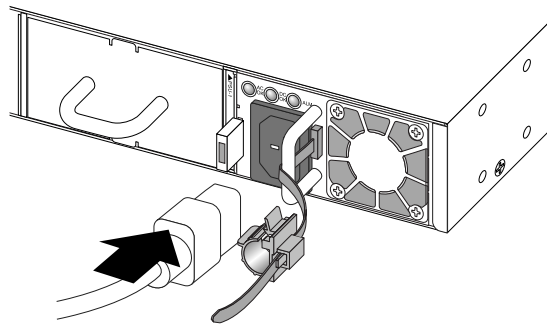

Figure 237: Connecting the Power Cord
- b Connect the AC power cord to the input connector (Figure 237: Connecting the Power Cord on page 270).